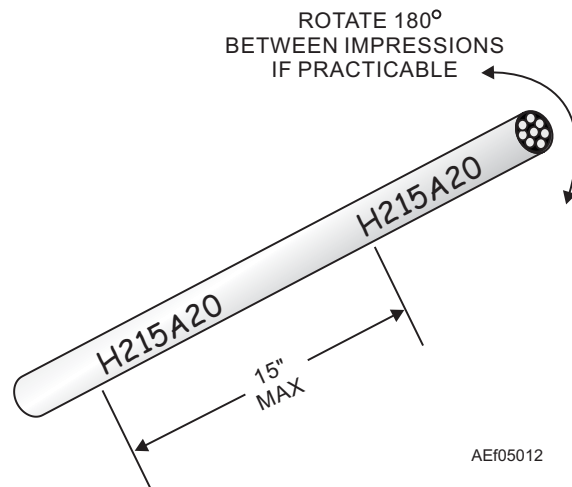

Figure 5-12.—Spacing of identification stamping on wire and cable.
- **Stamp wires and cables at intervals of not more than 15 inches along their entire lengths** (fig. 5-12).